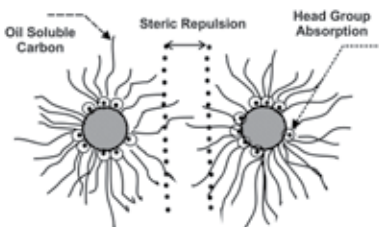
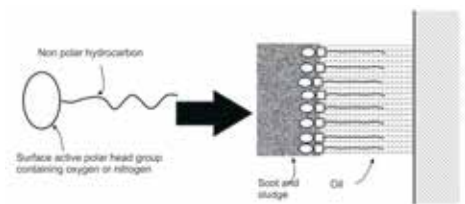

Fig. 5 Separation of small particles and prevention from coming into contact with others and increasing in size
Fig. 4 Polar head adsorbed on to the dirt particle providing a physical barrier to attraction
Polar dispersants (Fig. 3) envelop soot particles and scatter sludge and soot particles preventing agglomeration and settling. The polar heads attach themselves to deposits or deposit precursors or acids that may be formed by the combustion of the fuel to form micelles. Dispersants can hinder the agglomeration of soot, sludge, and dirt particles via two different mechanisms, Fig. 4 . (1) Steric stabilization: once the polar head group has adsorbed onto the surface of the dirt particle, the tail provides a physical barrier to attraction, Fig. 5 9. (2) Electrostatic stabilization: Dispersants can also induce a charge on the soot, sludge, and dirt particles. Agglomeration is then inhibited by electrostatic repulsion of the negatively charged dirt particles, Fig. 6 10.